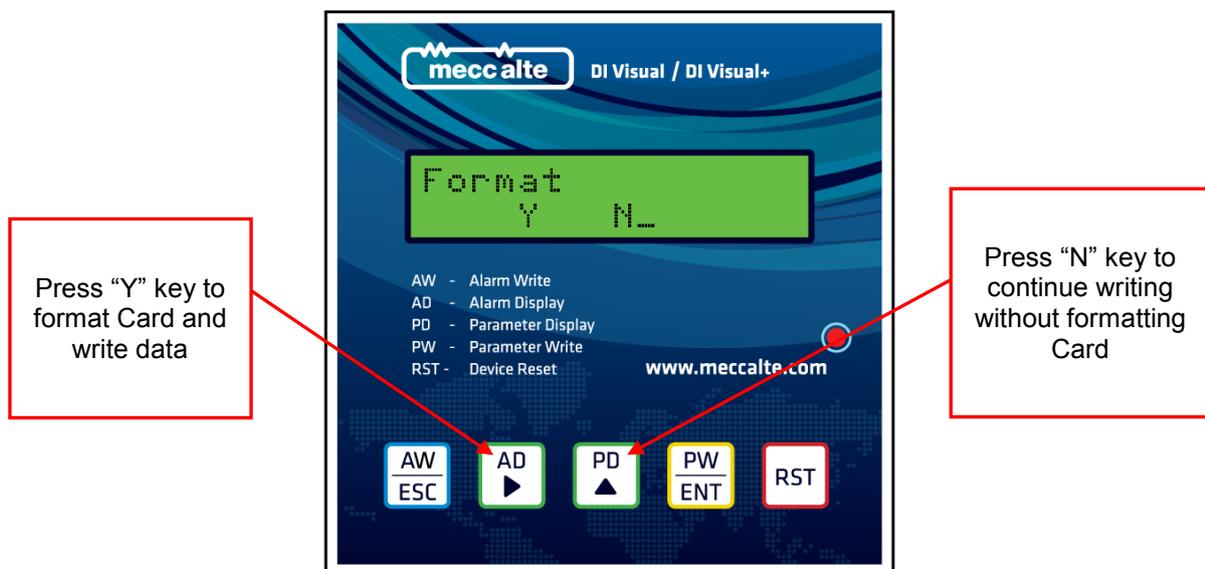

fig. 14
3) Once the Alarms values are collected from the DSR "Format Y N" message will be displayed on the LCD display. Press  key as shown in Fig. 14 above to format the SD Card and continue writing Alarm values on the SD card and LCD display will show message "Writing Data" blinking as shown in image below. Press  key to continue writing alarms without formatting the SD Card. (Recommended to Format card for the first time writing).